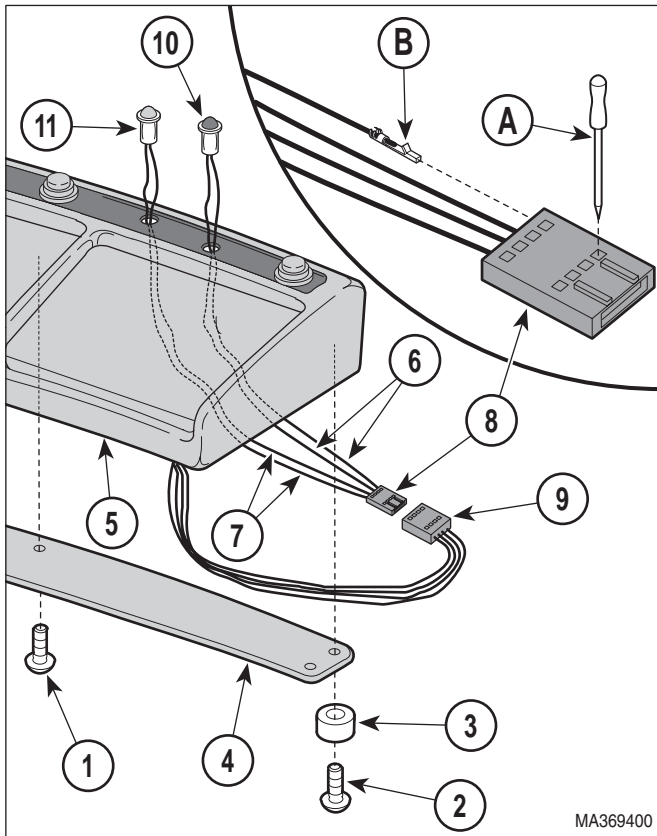

Figure 4-44. Typical Lamp Removal / Installation
- (1) Unplug foot control cord from table.
- (2) Remove three screws (1, Figure 4-44), four screws (2), glides (3), and wire channel cover (4) from foot control casting (5).
- (3) Tag two wires (6) and two wires (7).
- (4) Disconnect connector (8) from connector receptacle (9).